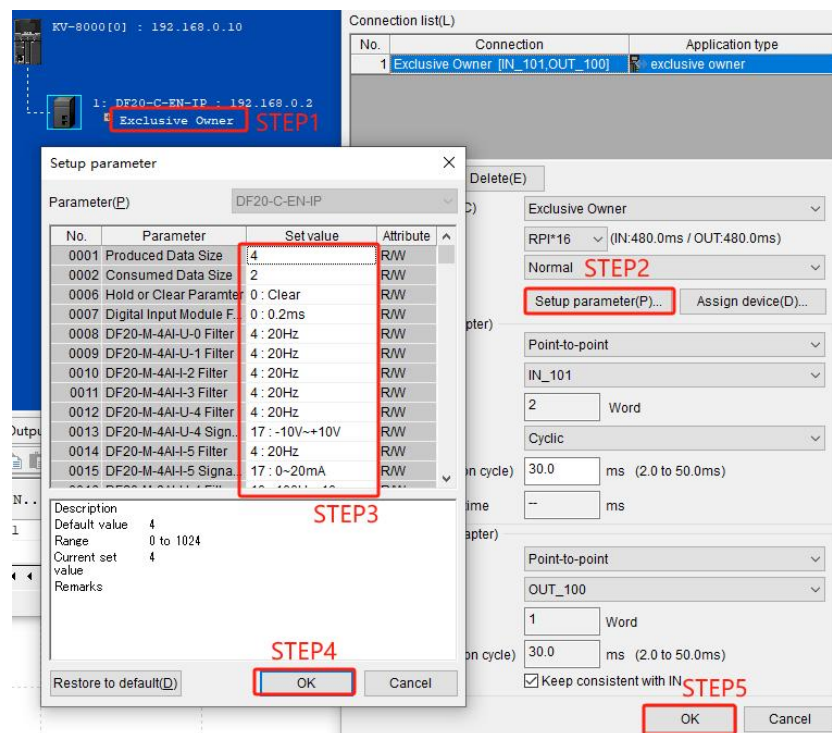

Figure 4-18
- As shown in Figure 4-18, the module parameters can be configured through the "Setup parameter" interface. The configurable parameters are shown in Table 4.1.